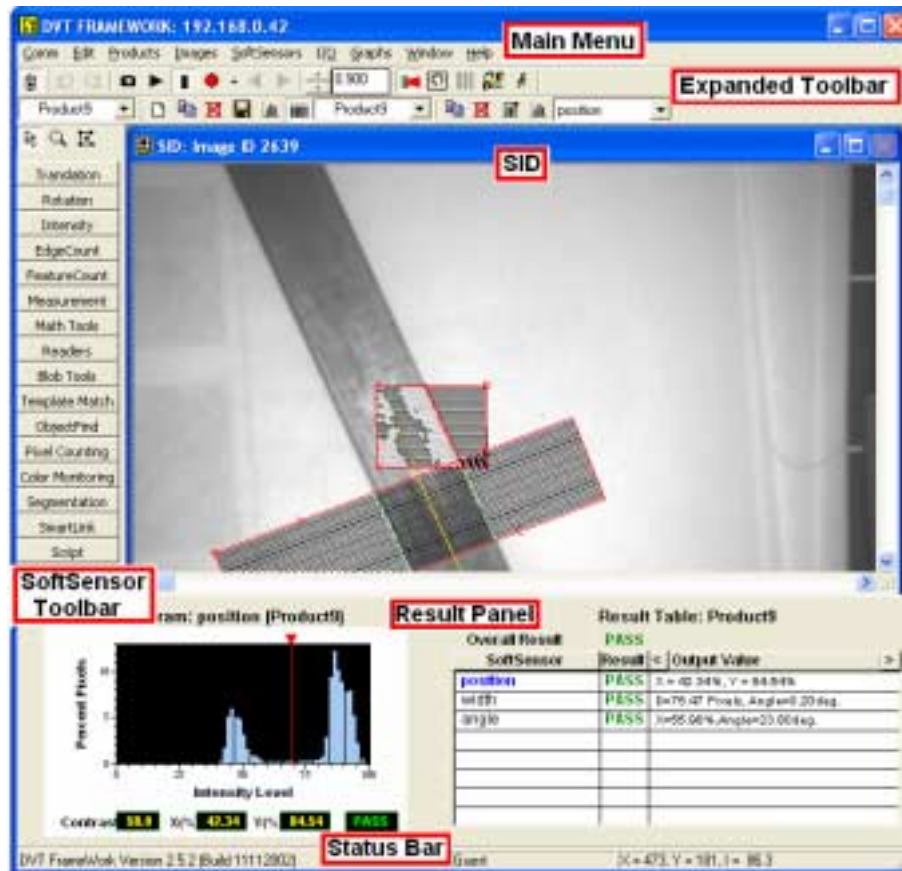

Figure 25: screen capture of the user interface highlighting the most important areas.
The FrameWork User Interface is a Microsoft Windows® application used for the configuration of SmartImage Sensors. The main areas of the interface are the main menu, the expanded toolbar, the SoftSensor toolbar, the SID, the result panel, and the status bar. Figure 25 shows a screen capture of the FrameWork user interface highlighting these areas.
The result panel is a combination of two elements that have been discussed in this chapter. The result table and the sensor graph for the SoftSensor that is selected from the result table. Figure 25 shows three SoftSensors in the result table. The selected SoftSensor is the one highlighted in blue, so the sensor graph to the left of the result table corresponds to this SoftSensor (named position).
- Instructions section: This is the left side of the bar. In Figure 25 it shows the version of FrameWork being used, but when the user selects to create a new SoftSensor, it displays click-by-click instructions so the user does not need to remember how to draw every SoftSensor.
- User section: This section is related to the SmartImage Sensor administrator, it shows the username under which the current operator is logged on. Figure 25 shows "Guest" because no user has logged on.